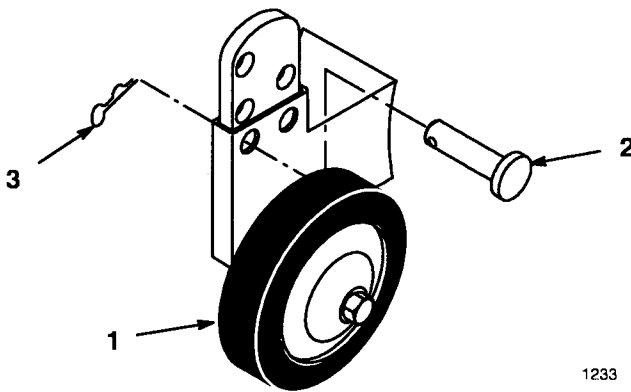

Figure 28
2. To adjust wheel height off the ground, remove the hairpin cotter and pin to change hole location (Fig. 28).
3. Select a hole position so the wheel is 3/8" (9.5 mm) off the ground for the height-of-cut position to be used (Fig. 28).